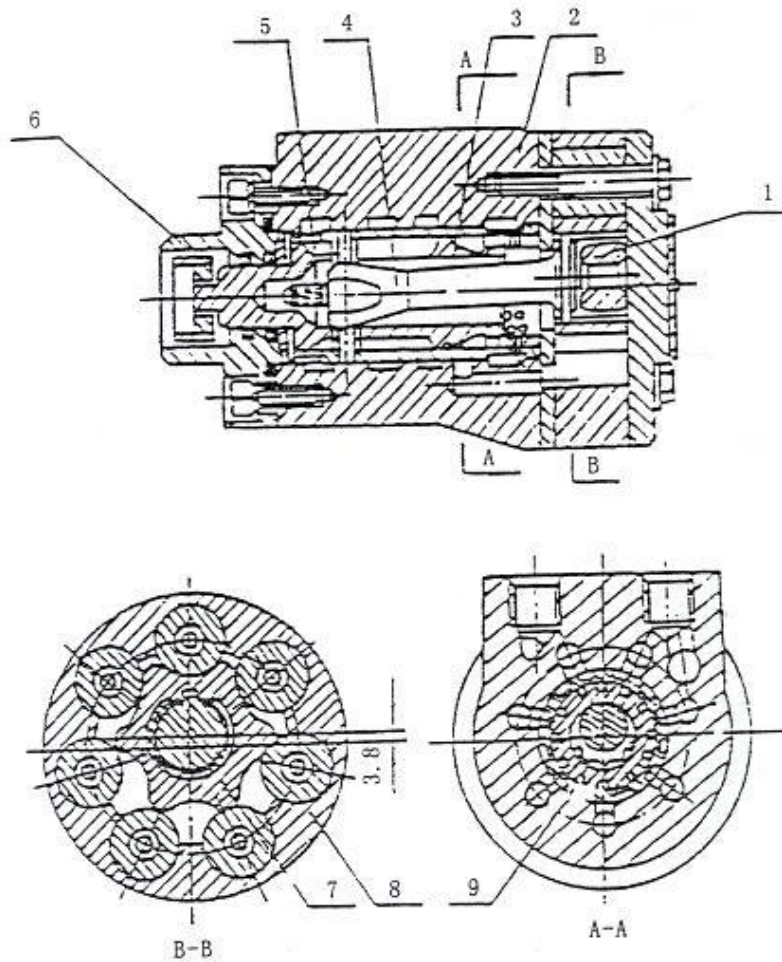

Figure 2-14 Steering control device
The steering system (Figure 2-14) is mainly composed of a steering wheel, steering shaft, steering device, steering oil pump and steering bridge. The steering shaft is connected to the steering gear through the universal joint, and the connecting shaft is connected with the steering wheel through the universal joint. The steering string can be tilted to the appropriate position through the handle (A). The steering axle is installed on the tail frame at the rear of the frame, and there is a steering joint on the left and right respectively. The steering joint is driven by the piston rod of the steering cylinder through the connecting rod to deflect the steering wheel and realize steering.